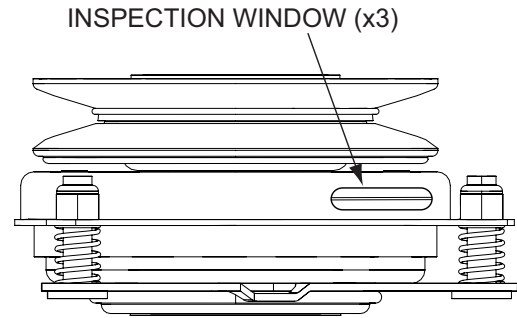

Figure 6-11. Clutch Air Gap Adjustment
3. Tighten or loosen the adjusting bolt as needed to achieve the 0.015 inch air gap. See Figure 6-11. Perform this operation at all three inspection windows.